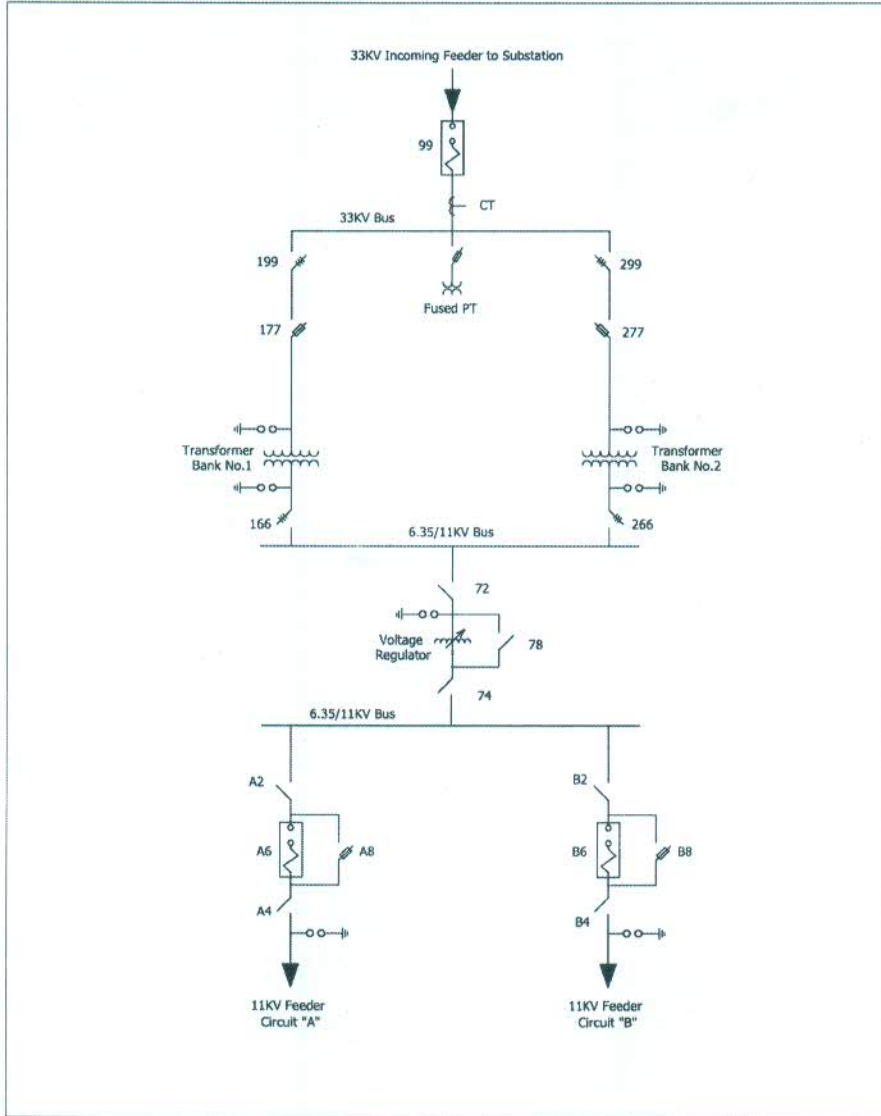
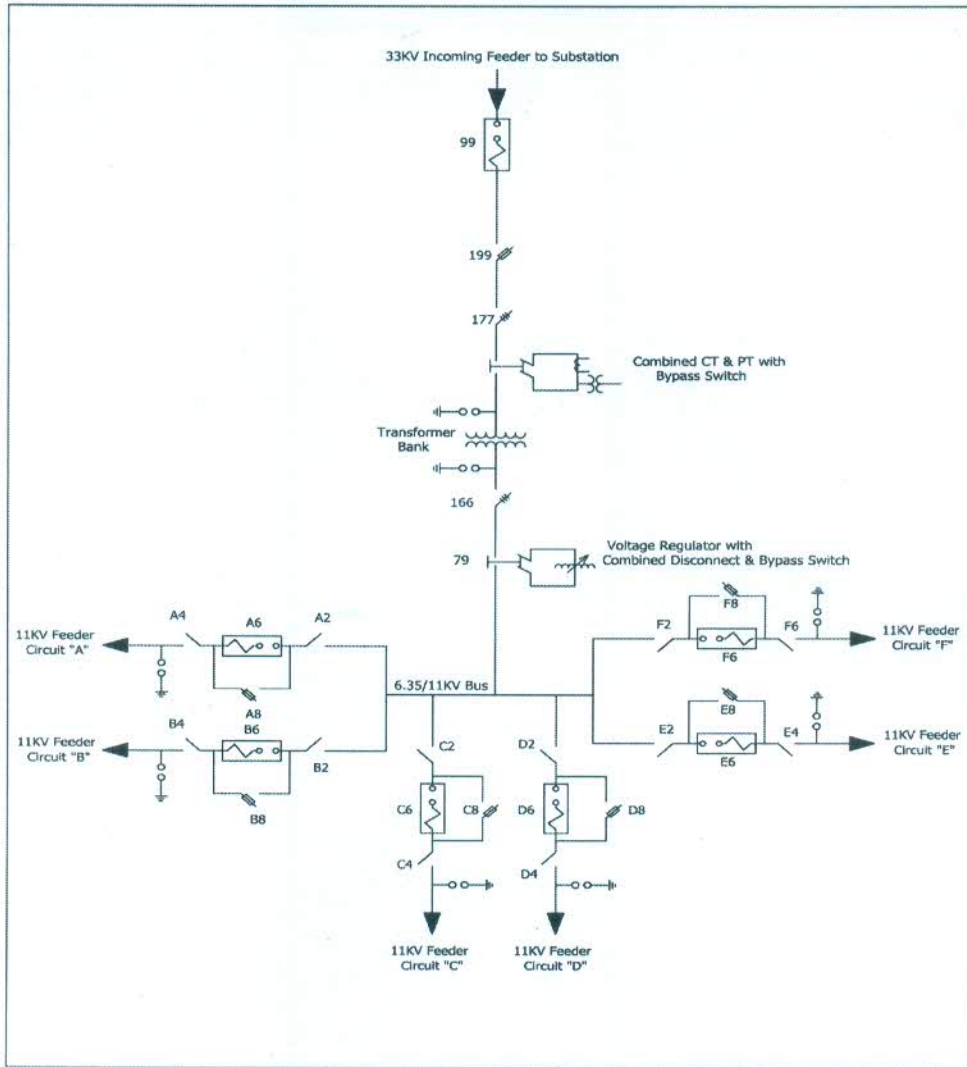

Figure 2-1: Single Line Schematic Diagram of 2 Transformer Bank Substation
Figure 2-2: Single Line Schematic Diagram of 1 Transformer Bank Substation
To properly identify transformers and other equipment in each substation, a uniform numbering system shall be used. These numbers shall be installed in a conspicuous location on or near the transformer or equipment. This numbering system will help to assure correct switching in the substations. Single line diagrams of the substation showing these numbers shall be available at each substation. See Figures 2-1 to 2-3 and Table 2-1.
2.3.1 An ACR/ OCR/ Breaker on the incoming 33KV circuit to the substation will be designated as Switch No. 99 (Figure 2-1 and Figure 2-2).
2.3.2 A numbering system utilizing three-digit numbers shall be assigned to switches associated with the transformer bank. The first digit in each case is the same as the transformer bank number subsequent digits identify the respective high voltage (99) and low voltage (66) circuit locations of the switches. (Figure 2-1)
2.3.4 Two digit numbers shall be assigned to switches associated with single phase Voltage Regulators connected to the 11 KV MAIN Bus. (Figure 2-1 and 2-3)
In the event that all three of the above switches are replaced with one sequenced Bypass/Disconnect switch, than it will be designated as switch no. 79. (see Figure 2-2)